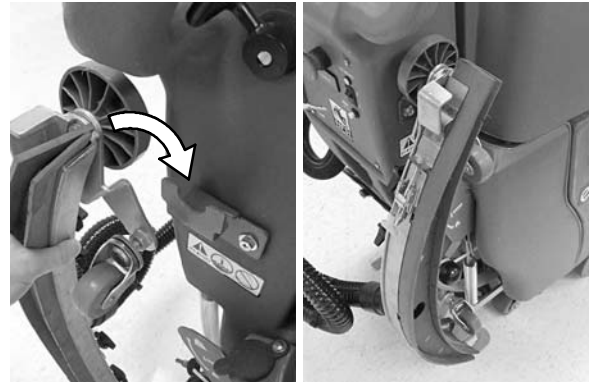

FIG. 24
9. When transporting or storing machine, remove the squeegee assembly and hang it on the storage bracket (Figure 24).